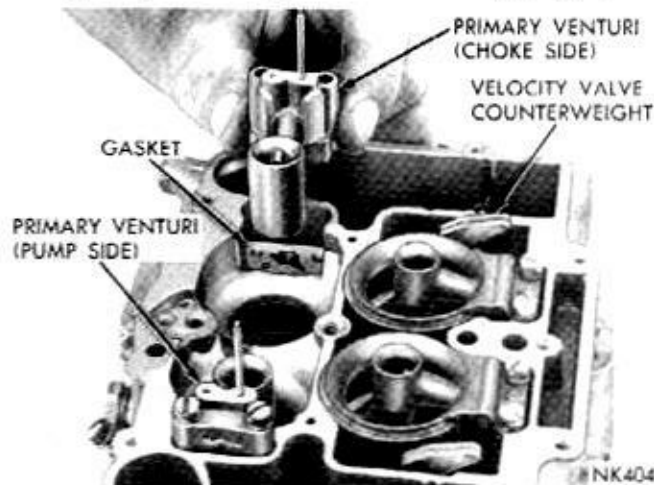

Fig. 5—Removing or Installing Primary Venturi Cluster
(4) Remove screws that attach primary venturi (choke and pump side) to main body. Lift venturi straight up and away from main body, (Fig. 5). Dis-
(4) Place new secondary venturi gaskets in position, then install secondary venturi (pump and choke side) by lowering straight down on gaskets. Install attaching screws and tighten securely. **Be sure all the metering holes and vent tubes are clean, in both the primary and secondary venturi.**
(5) Place new primary venturi gaskets in position, then install the primary venturi (pump and choke side) by lowering straight down on gaskets. (Fig. 5). Install attaching screws and tighten securely.